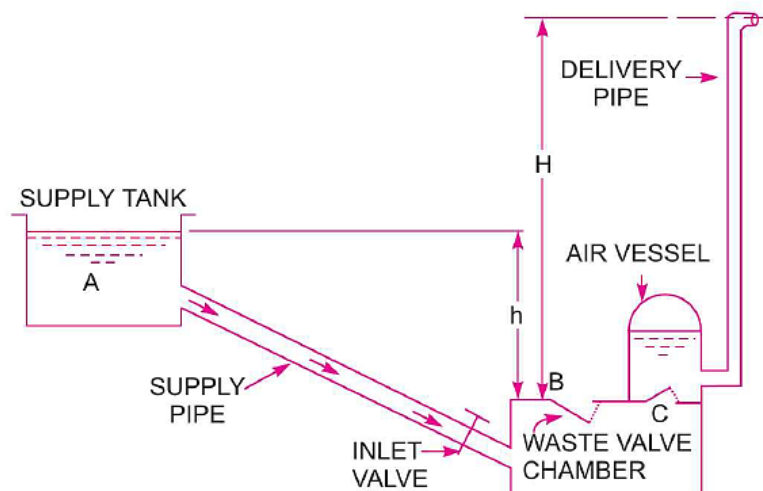

Fig.10.7 –Hydraulic Ram
▶ Fig.10.7 shows the construction of a hydraulic ram. It consists of a supply pipe, closed chamber, waste valve (B), delivery valve (C), air vessel and a delivery pipe.